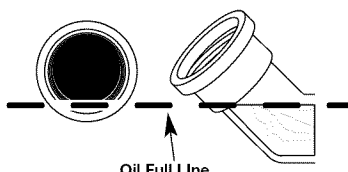

Fig. 20
3. Look into the oil fill hole (Fig. 20). If the oil level comes up to the lowest thread, then the oil is full. If it does not, fill with oil until it does.